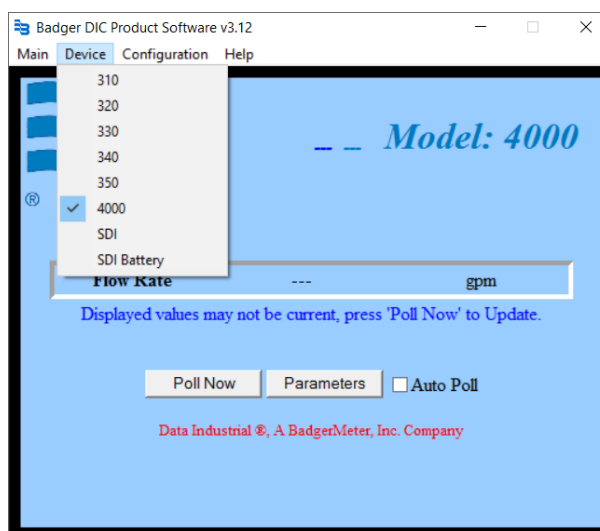

Figure 5: Select 340
4. Open the program and from the *Device* tab and select **4000** as shown in Figure 5.